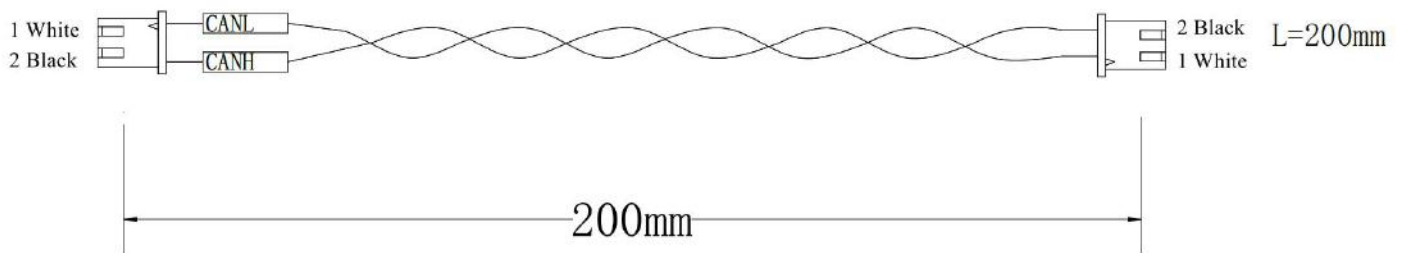

Figure 4-3 Communication Cable
- The CAN communication wire on the DC output cable is CAN_L in white and CAN_H in black, as shown in Figure 4-3.